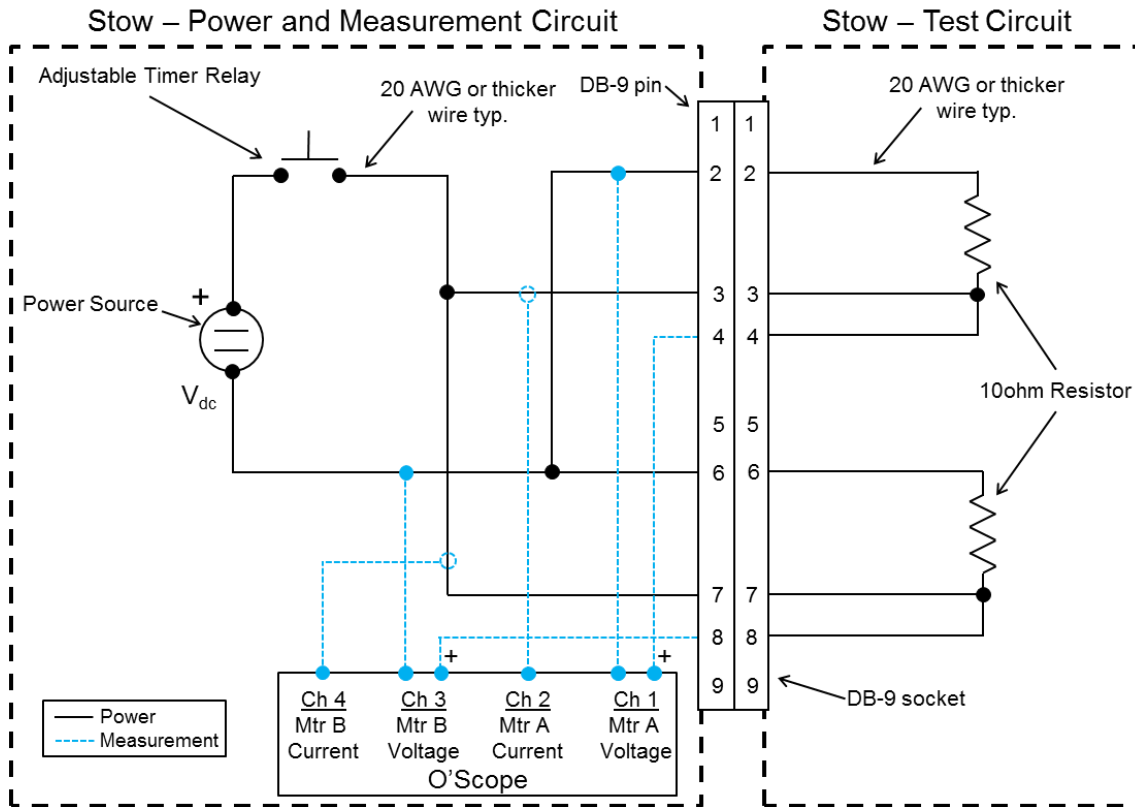

Figure 19: Stow Test Circuit
7.2.2	<p>Set up the 'Stow - Power and Measurement Circuit' per Figure 19. Voltage and current for each "motor" (resistor) shall be measured.</p> <p>Do not connect the Lightband.</p>
7.2.7	<p>Set up the 'Stow - Test Circuit' per Figure 19.</p> <p>This circuit uses a 10 ohm resistor (≥100 W) to simulate each Lightband motor.</p>
7.2.8	<p>Connect the 'Stow - Test Circuit' to the 'Stow - Power and Measurement Circuit' per Figure 19. When ready, apply power to the circuit and verify the following:</p> <ol style="list-style-type: none"> 1) The entire voltage and current profiles for both "motors" are measured. 2) Timer relay applies power for specified time. 3) Current for each "motor" is about 1/10 of applied voltage. ($I=V/R$). 4) Data properly saves (transferable data set; e.g. viewable on computer, picture in focus, etc.). <p>If any parameters are not met, make the required changes and run the test circuit again. The test circuit may be run as many times as necessary to ensure the power and measurement circuit is performing as required. Upon completion of this step the 'Stow - Power and Measurement Circuit' shall not be changed.</p>